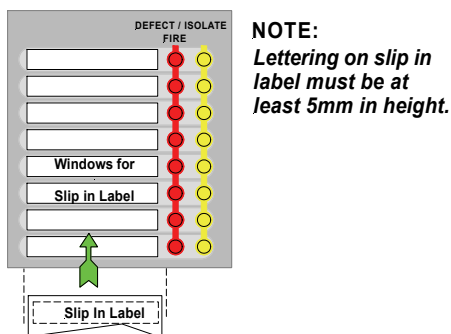

Figure 1: Inserting Optional Site Label
2. Open the front door and remove the four (4) screws securing the front cover to the housing.
3. Install an appropriate coupling into the housing then mount using the three (3) knockout mounting holes
4. See *Figures 1 and 2* if site specific label is to be fitted